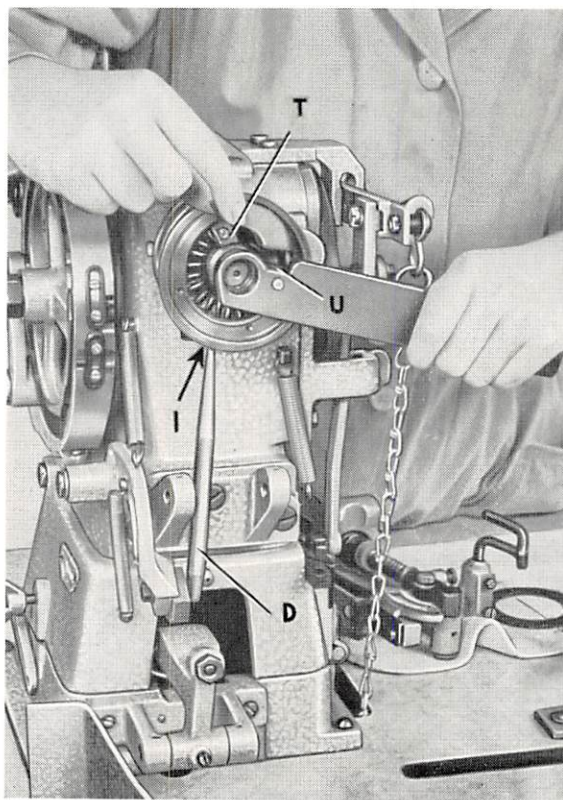

Fig. 67 Inserting a new stop cam spring
- a. Place one check block (Fig. 67) on the stud in the stop cam spring housing.
- c. Insert punch **D** into hole 1 of the driving pulley, as shown in Fig. 67. Then rotate the pulley until the punch bears against the left bearing bracket.
- d. Place check block **U** on the stud of the wrench, and push the wrench onto the end of the arm shaft, as shown in Fig. 67, so that the hub of the wrench bears against the hub of the driving pulley. Now depress the wrench until the Novotex segment can be placed between both check blocks.